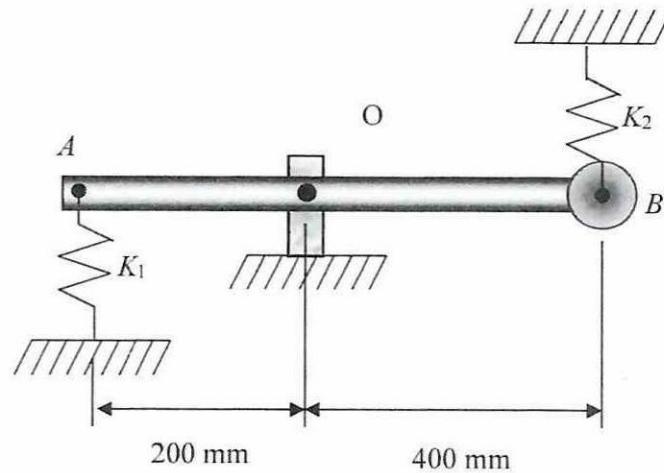

Figure Q1.1
- Q1 (a)** **Figure Q1.1** shows 4 kg of AOB bar. It has 100 mm of centrifugal radius that is measured from O to B. Two springs K_1 and K_2 are attached at A and B points with the stiffness coefficient is 5000 N/m. The point B also has a 1 kg mass connected between the spring and end bar.